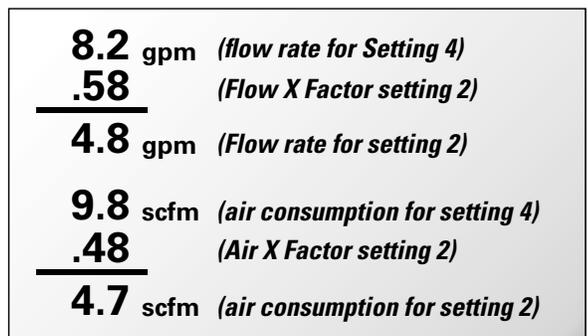

Figure 3
FIGURE 3 At completion of the stroke, the air valve again redirects air to the back side of the diaphragm **A**, which starts diaphragm **B** on its exhaust stroke. As the pump reaches its original starting point, each diaphragm has gone through one exhaust and one discharge stroke. This constitutes one complete pumping cycle. The pump may take several cycles to completely prime depending on the condition of the application.
Step 3: Calculating performance for specific EMS setting. Multiply the flow rate (8.2 gpm) obtained in Step 1 by the flow X Factor multiplier (0.58) in Step 2 to determine the flow rate at EMS setting 2. Multiply the air consumption (9.8 scfm) obtained in Step 1 by the air X Factor multiplier (0.48) in Step 2 to determine the air consumption at EMS setting 2 (Figure 3).